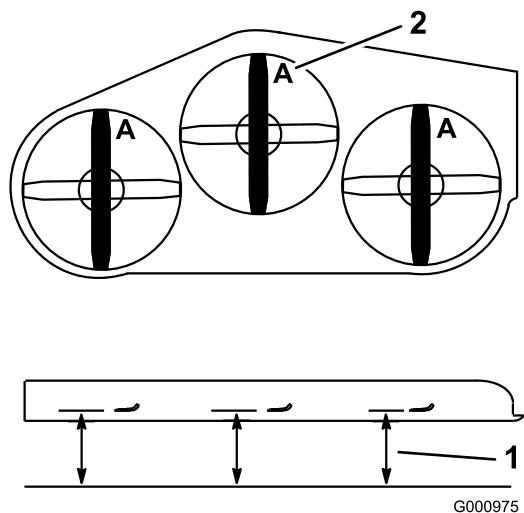

Figure 67
2. Measure from a level surface to the cutting edge, position A, of the blades (Figure 67).